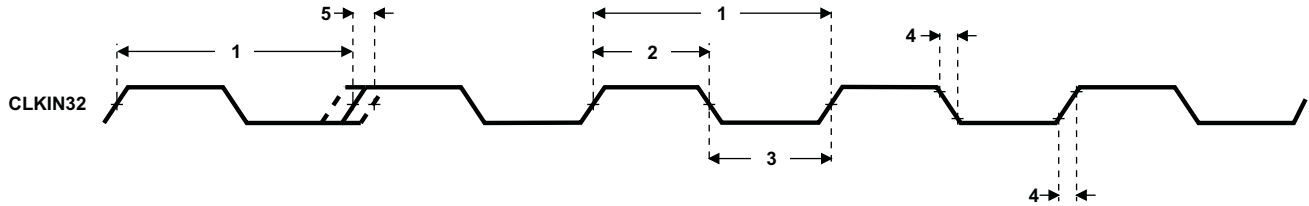

Figure 7-15. CLKIN32 Timing
Table 7-18. Timing Requirements for CLKIN32 (1)(2) (see Figure 7-15)